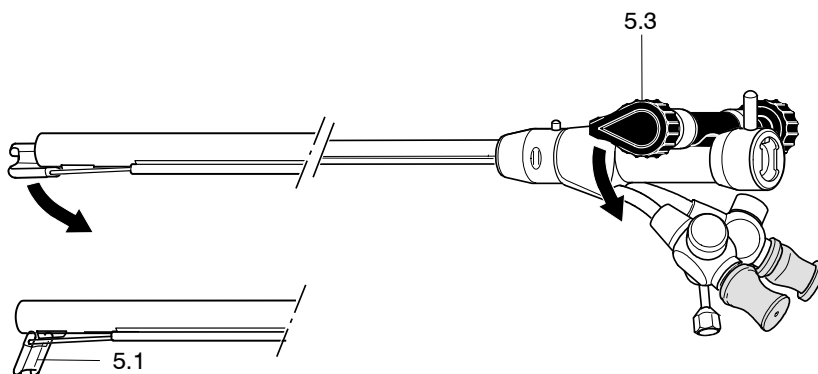

Fig. 13
- ◇ Check deflection of Albarran's lever (5.1) (Fig. 13).